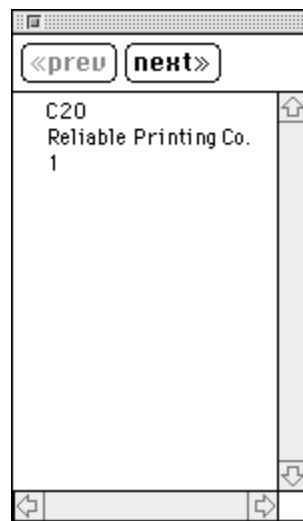

Figure 2-14 Data Palette with OMNIDATA.TXT
5. The data palette automatically appears and displays a single record from the data file. Note that there are three data fields in the first record of **OMNIDATA.TXT** . The first field is displayed on the top line of the data palette, the second field on the second line, and the third field on the third line. See Figure 2-14. Use the mouse pointer to enlarge the window wide enough to display all the characters in the record.